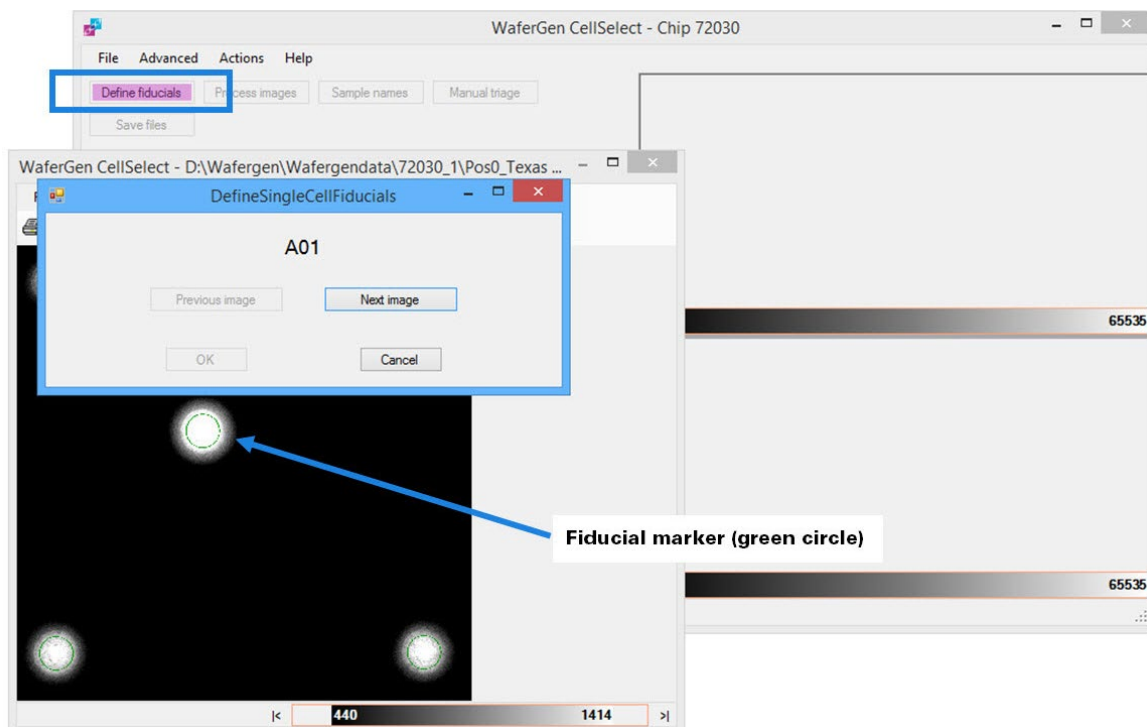

Figure 24. Defining fiducials.
6. The software will automatically detect fiducials and prompts you with four consecutive fiducial images. The [Define fiducials] box in the top-left portion in the *Main* window will be highlighted as this process occurs (see Figure 24). The first fiducial image (Pos0) shows five green circles, while the other three fiducial images (Pos11, Pos132, Pos143) show four green circles. The green circles highlight the centers of the nanowells (Figure 24).